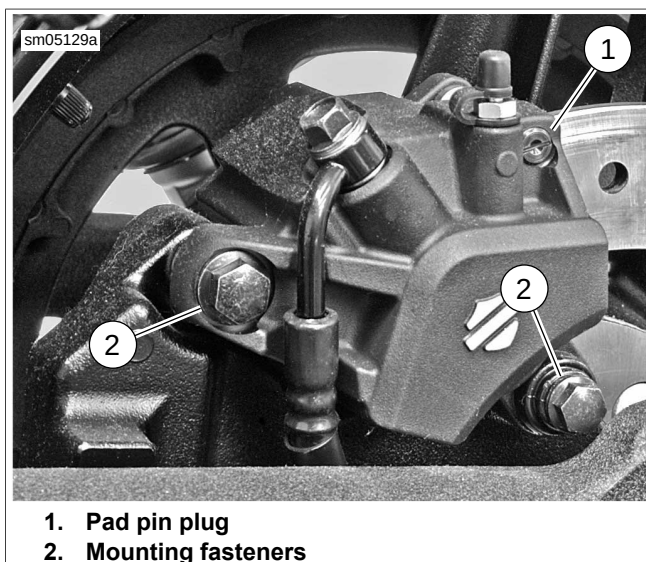

Figure 1-60. Rear Caliper Assembly: XR 1200X
- See Figure 1-60. It is **not** required or recommended to remove or loosen the caliper mounting fasteners (2).
- See Figure 1-60. Remove pad pin plug (1).